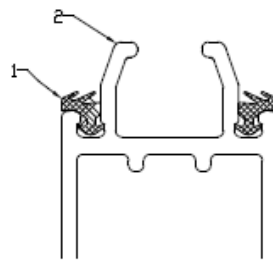

Figure 16
- Step 2: Remove the damaged seals and replace it by the new ones (See Figure 16, part#1). Add general purpose Loctite to secure the seal in position.